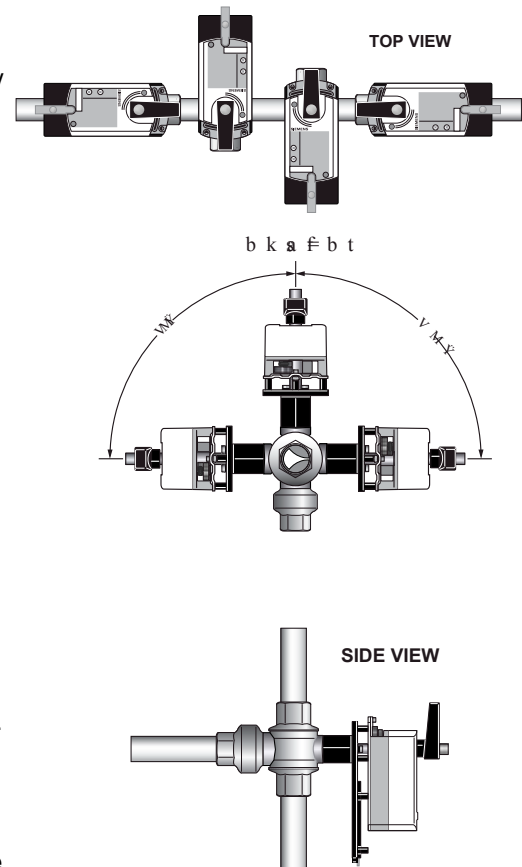

Figure 3. Mounting Positions.
- For added flexibility, the actuator can be installed in any of the four (4) rotation angles relative to the valve body. See Figure 3.